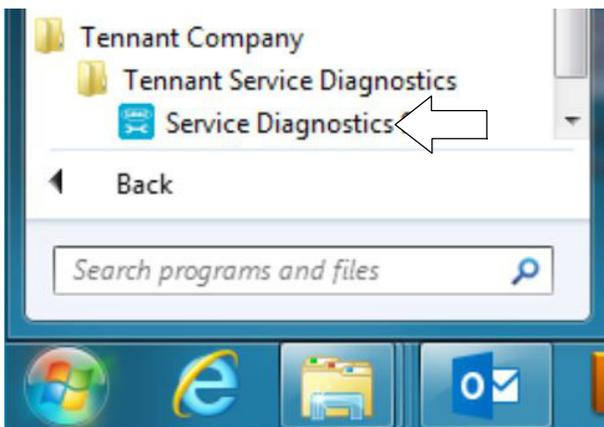

Fig. 22
- Start the Service Software Application program “Service Diagnostics tool”(Figure 8). Refer to Figure 22 for further details to access software.
The software is pre-installed on your computer as shown below. The software application is titled “Service Diagnostics” (Figure 22).